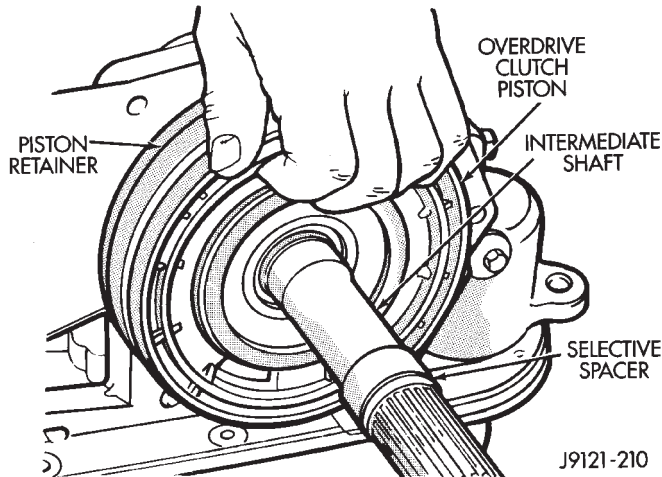
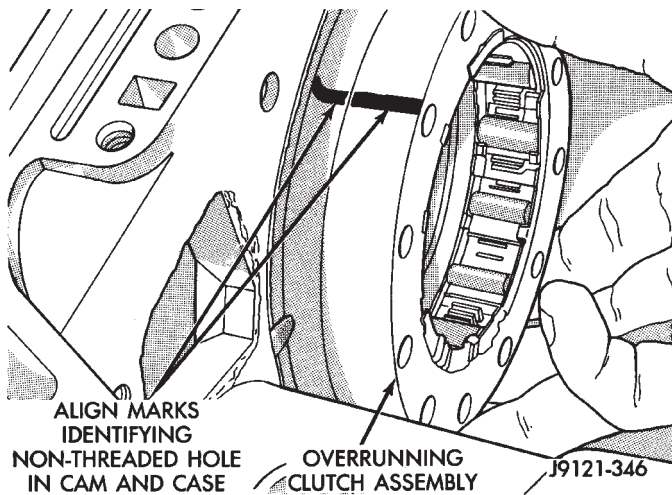

Fig. 137 Overdrive Piston Removal
Fig. 138 Overrunning Clutch Cam Removal
- (1) Remove the overdrive piston (Fig. 137).
- (2) Remove the overdrive piston retainer bolts.
- (3) Remove overdrive piston retainer.
- (4) Remove case gasket.
- (5) Mark the position of the overrunning clutch cam in the case (Fig. 138).
- (6) Remove the overrunning clutch cam bolts.
- (7) Remove the overrunning clutch cam.